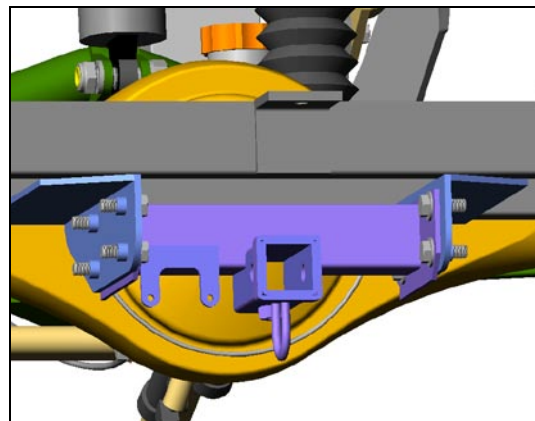

Figure 44
- a. Install hitch receiver to Trike Body Frame with supplied hardware. Figure 44